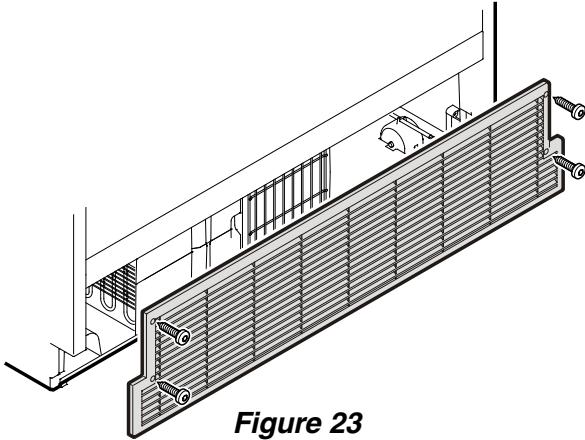

Figure 23
- Open the bottom freezer drawer and unscrew the ventilation grille **Figure 23**.